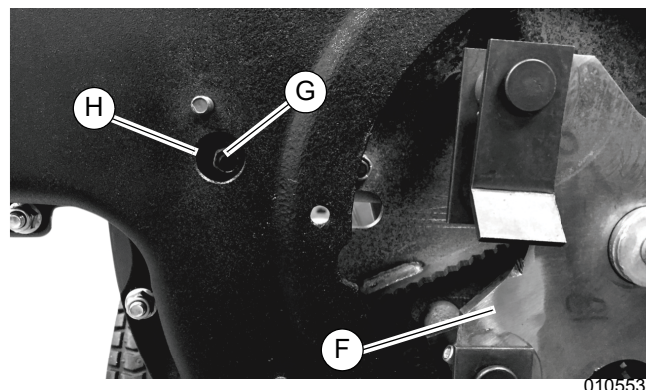
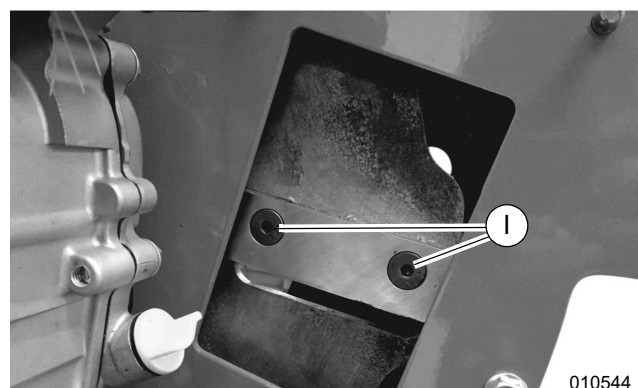

Figure 4-6. Replacing Chipper Knife (3 of 4)
Figure 4-7. Replacing Chipper Knife (4 of 4)
4. See Figure 4-6. Rotate flywheel (F) until locknut (G) is visible through locknut access hole (H).
5. See Figure 4-7. Clean out heads of Allen screws (I) with an awl or sharp tool.
6. See Figure 4-6 and Figure 4-7. Insert a 3/16" Allen wrench into screw (I) and a 1/2" deep socket on locknut (G) through locknut access hole (H) and remove the locknut and screw.